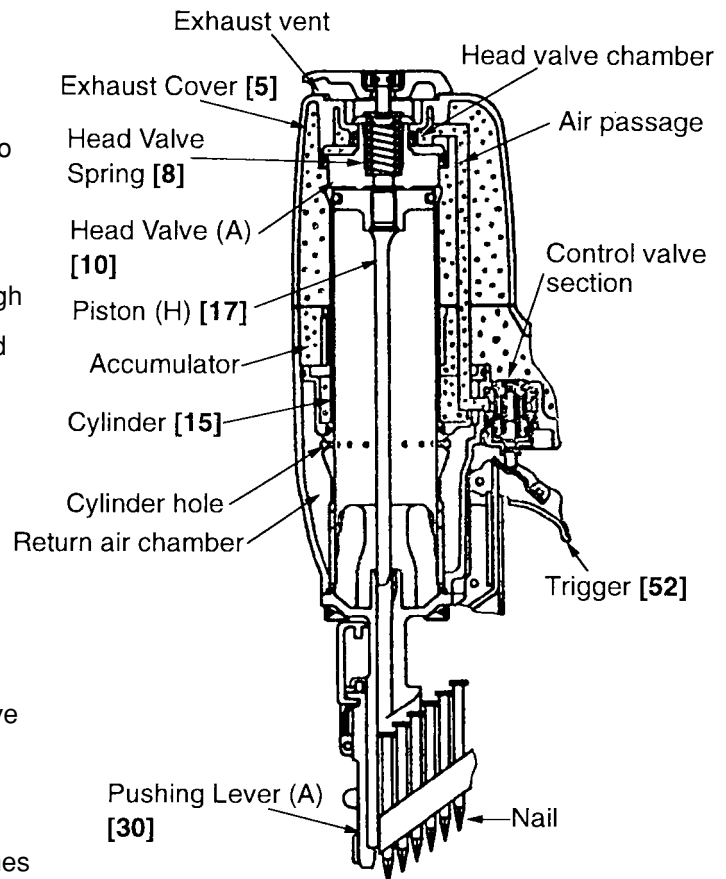
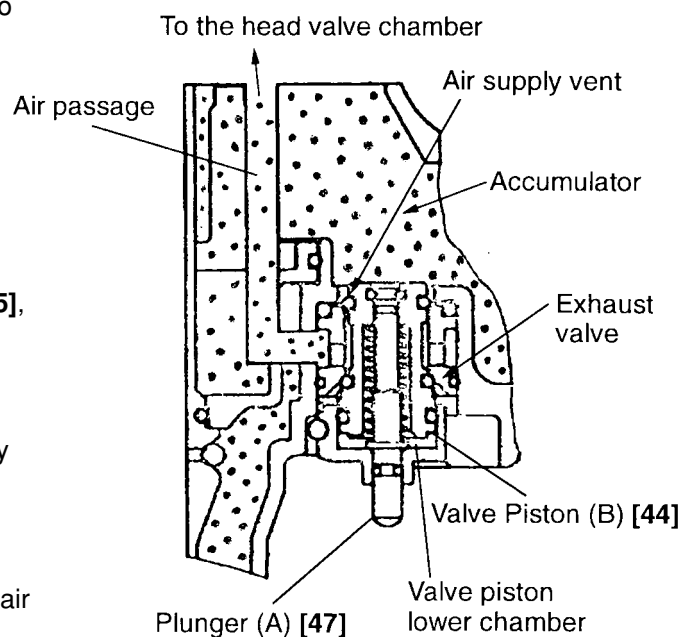

Fig. 14
Fig. 15 Control valve section
(1) Before nailing: (Fig. 14 and Fig. 15)
(2) When nailing: (Fig. 14 and Fig. 15)